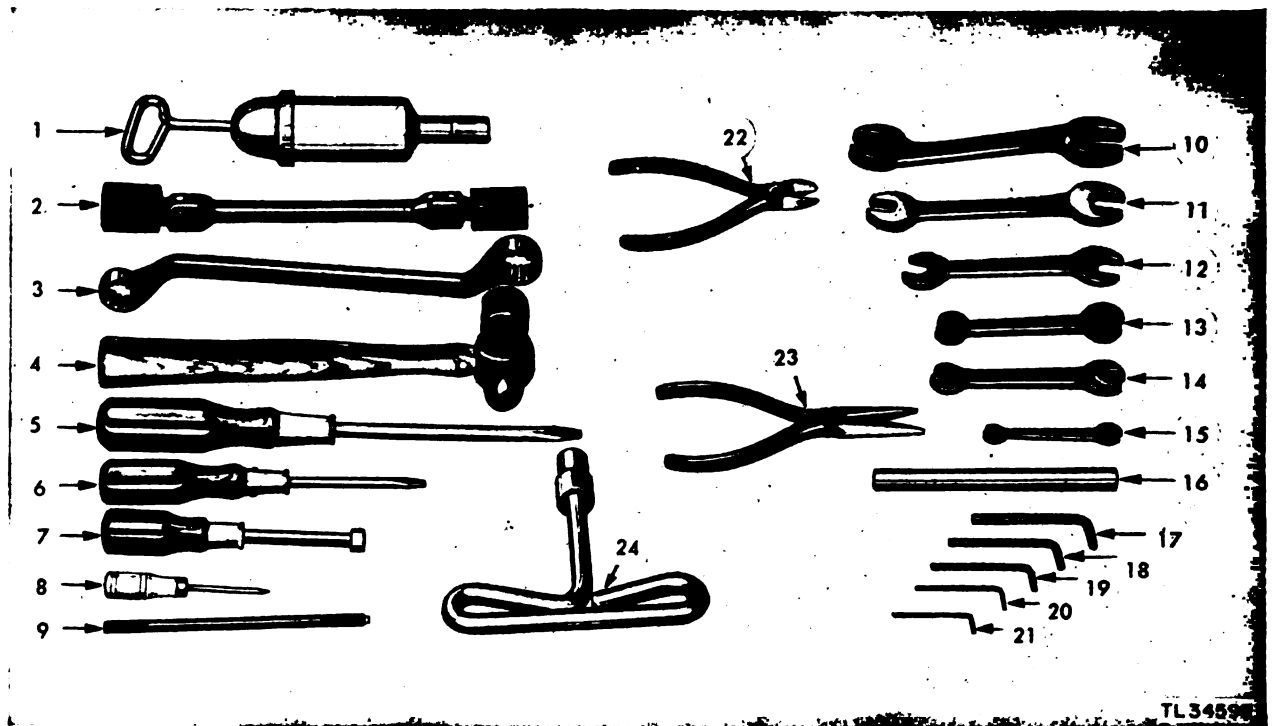

Figure 1. Tool equipment.
The following tools are supplied with Radio Equipments RC-182-A and RC-282-A. The number in the circle following the tool description corresponds with the number on figure 1.
**c. ALLEN WRENCHES.** Used to tighten or remove setscrews with the special Allen head. Various sizes are supplied to accommodate all screws in the equipment. These wrenches are numbered on figure 1 and described in the tool list. Keep them in the container provided. After use, wipe them with an oily rag.
**d. PLIERS.** (1) Diagonal pliers are used to cut copper wire up to size 14. They are not designed to cut steel wire. Keep the joint oiled. Store the tool in the tool box when through with a job.
(2) Long-nose pliers are used to hold and bend fine wire, grip small parts, and for light work. Keep oiled and clean. Do not use the long-nose pliers for tightening nuts.